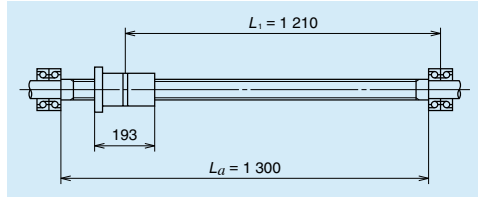

Fig. 16.4 Examination of buckling load
(1) Permissible axial load
Calculate the buckling load for conditions shown in **Fig. 16.4** with P of 10 354 (N) and L_1 of 1 210 (mm).